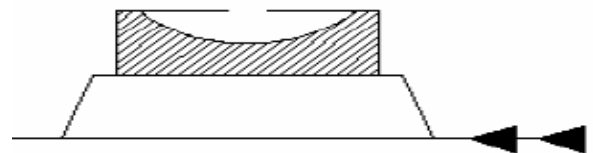

Fig. 9
- Top side vent design (wedge type) (Fig.9)